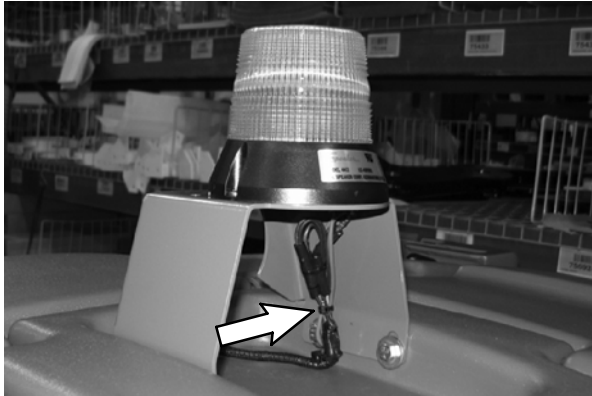

FIG. 7
8. Neatly bundle remaining length of the warning/backup harness (8) and use a cable tie or electrical tape to hold the bundled wire together. Refer to Fig. 7.